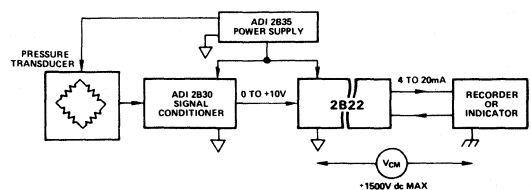

Figure 9. Isolated Pressure Transmitter
**Pressure Transmitter:** In Figure 9, model 2B22 is used in a pressure transmitter application to provide complete input-output isolation and avoid signal errors due to ground loop currents. The process pressure is monitored with a strain gage type pressure transducer interfaced by the Analog Devices' model 2B30 transducer conditioner. The bridge excitation and system power is provided by the model 2B35 triple output power supply. The high level voltage output of the 2B30 is converted to the isolated 4 to 20mA current for transmission to a remote recorder or indicator.